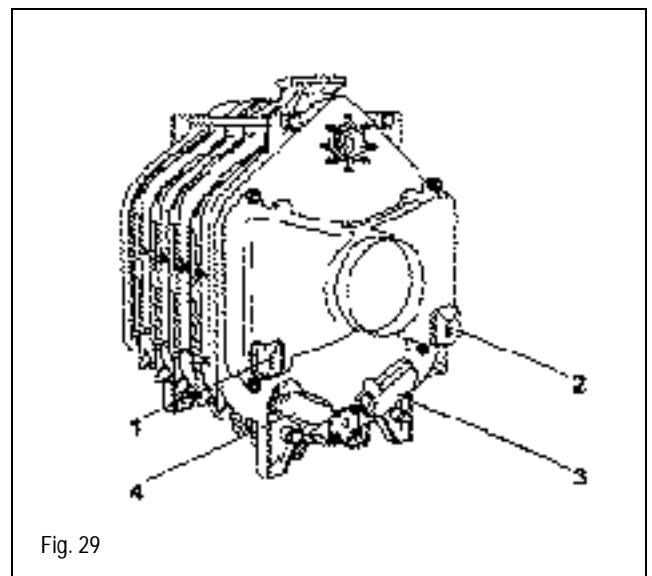

Fig. 29
- Glue a GP gasket (about 30" long) in the grooves located at the bottom of the rear section (Fig. 29).
- Place clean-out covers (3,4) on studs provided (Fig. 29). Secure evenly with washers and nuts.
- Secure clean-out covers (1,2) on flue collectors (Fig. 29).